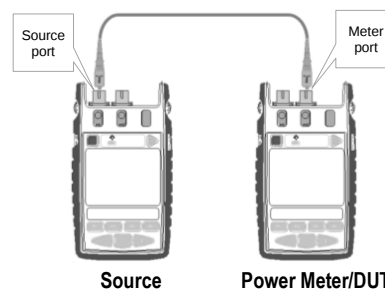

Figure 9. Test set-up for Output Power & Short-term Stability Tests
1. Connect the equipment as shown in Figure 9.
1. Connect the equipment as in Figure 9 (previous page).